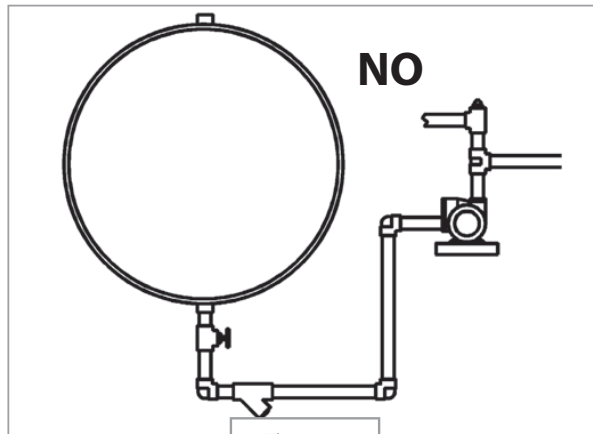

Figure 5
2. The pump should always be at a lower level than the tank's lowest liquid level. Install the pump to eliminate any low spots or loops in piping. **Figure 5**
11. Avoid up-across and down pipe loops where vapors can accumulate. **Figure 5.**